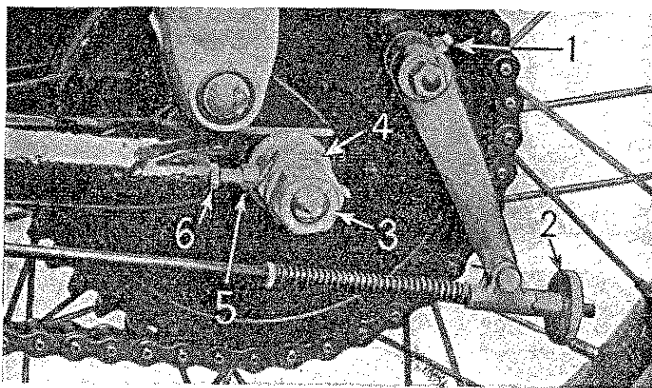

FIG. 69. REAR BRAKE ADJUSTMENT (1945-55) AND SECONDARY CHAIN ADJUSTMENT (1955-7) ON SPRING-FRAME MODELS
On 1945-54 models the adjuster bolt (4) on the heel of the pedal is located almost vertically. Note the detachable dorned clutch-cover fitted to 1954 and later models. See Fig. 69 for brake adjustment.
To make a minor rear-brake adjustment, jack the A.J.S. up on its rear or centre stand. Then on 1945-55 models to eliminate "lost motion," screw the hand adjuster (2) at the rear of the brake rod (see Fig. 69) farther on to the rod until slight friction is felt between the brake linings
On 1955 and later models an adjuster screw and lock-nut (see Fig. 69) are provided on the front side of each rear fork-end. To make a secondary chain adjustment (with the machine on its centre stand), loosen the spindleend nut (3) on the near side; slacken the adjacent lock-nut (4) for the brake cover-plate. Now loosen the lock-nut (6), on each side of the hub, and screw out the chain adjuster-screw (5) as required to tighten the chain correctly. Note that it is essential to unscrew both chain adjuster-screws
KEY TO FIG. 69